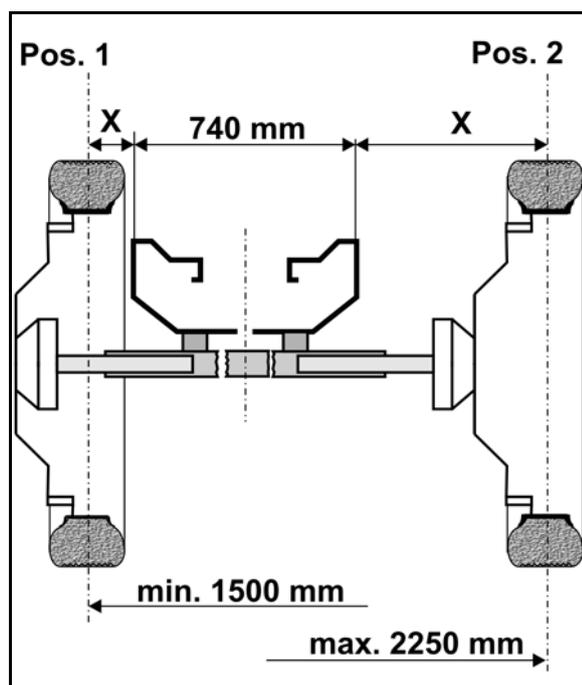

Fig. 134
4. Undo the clamping screws (Fig. 134/1.2)..
6. To align the axle, first tighten screws (Fig. 134/1) to a torque of 210 Nm.
7. Then tighten screws (Fig. 134/2) to a torque of 750 Nm.